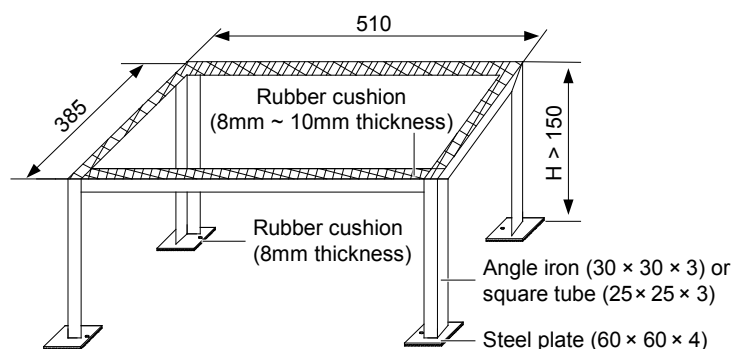

Figure 2-12 Mounting base of DME07kW indoor unit
1. The outline and dimensions of the mounting base are shown in Figure 2-12.